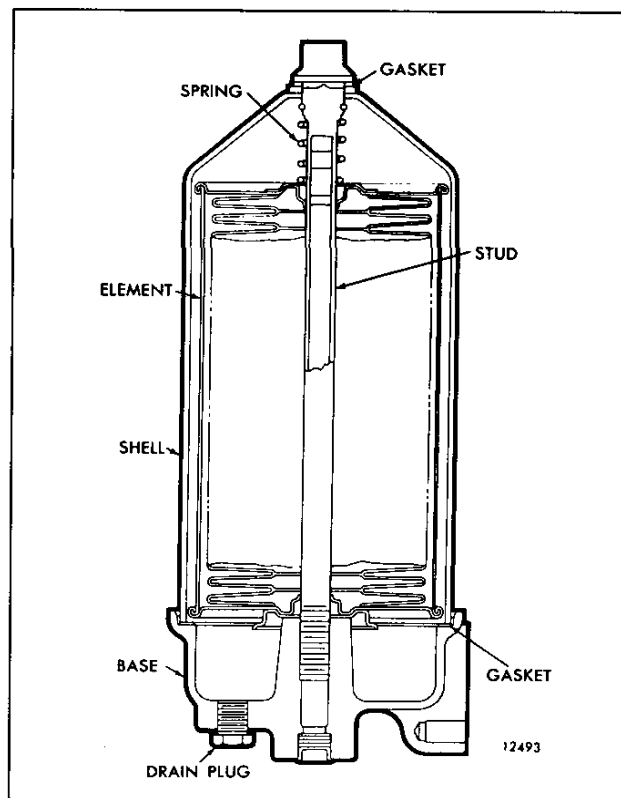

Fig. 4 - Bypass Oil Filter Details
5. Remove and discard the element retainer seal (Fig. 4). Install a new seal.